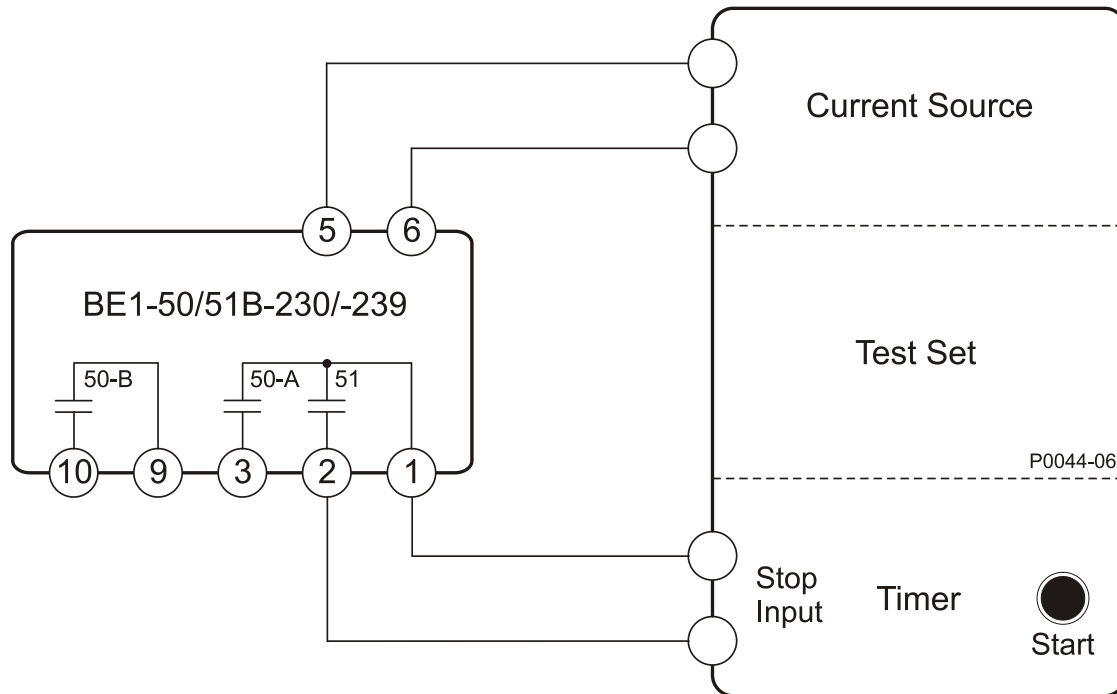

Figure 5-1. 51 Pickup, Time Dial, and Integrating Reset Test Setup
The following test procedures verify operation of the BE1-50/51B-230, BE1-50/51B-234, and BE1-50/51B-239 relays. The test setups illustrated in Figures 5-1 through 5-8 are intended primarily as an illustration of the principles involved. Other test equipment known to be capable of testing with the stated and implied tolerances (including equipment designed specifically for testing protective relays) may be used.
- a. Connect the test setup shown in Figure 5-1.
- a. Connect the test setup as shown in Figure 5-1.